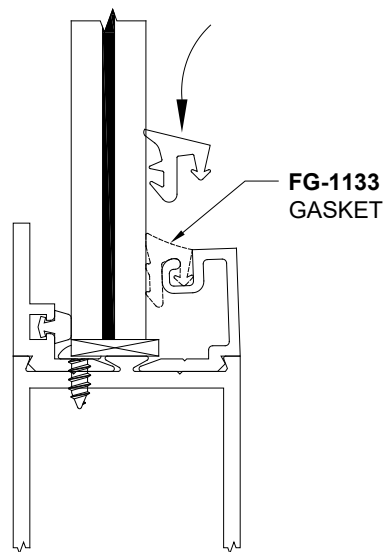

Figure 41: Installing FG-1133 Gasket
13.3.6 Press the **FG-1133** Gasket into the reglets in **S-83**, installing vertical Gaskets first, then horizontal Gaskets, as shown in Figure 41. The **S-81** stop will have **V-28** gasket pre-installed.